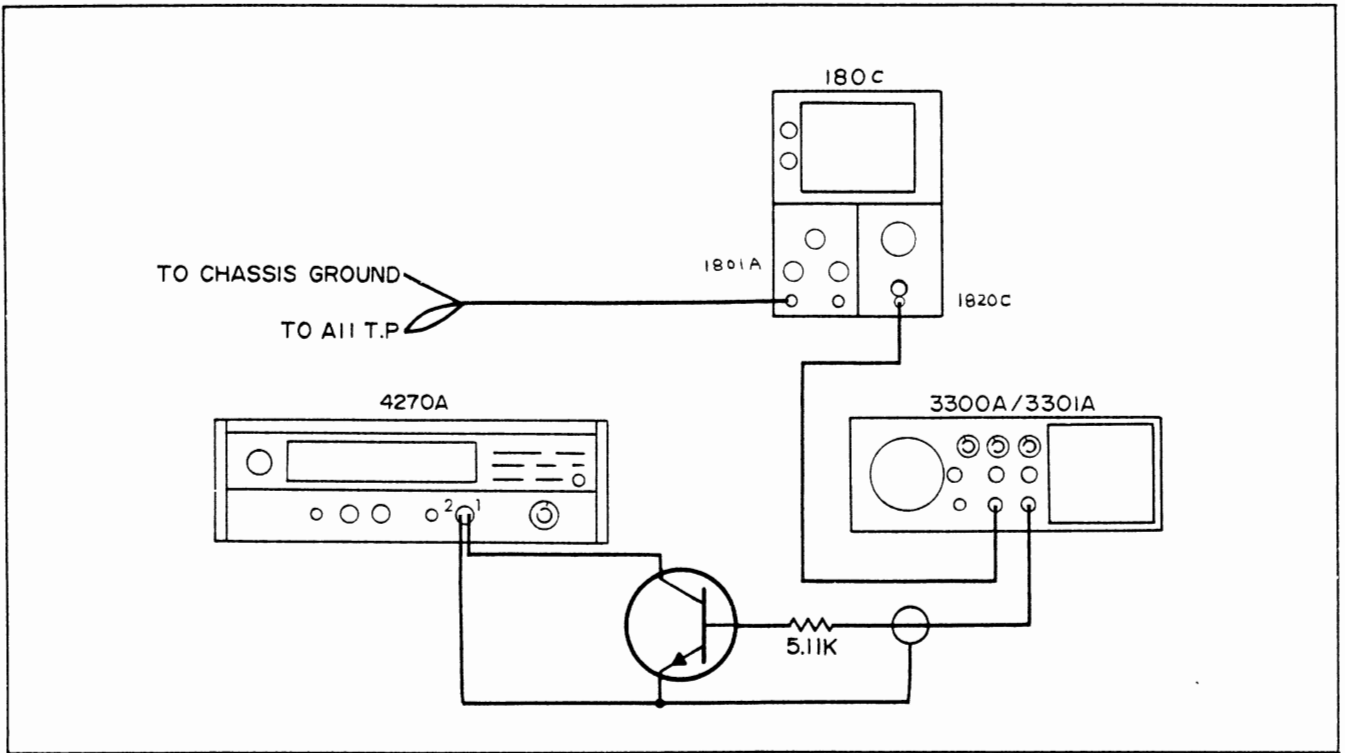

Figure 5-4. Current Detector Adjustment.
- Connect the equipment as shown in Figure 5-4.
- a. Connect the equipment as shown in Figure 5-4. Set 4270A controls as shown in Figure f.